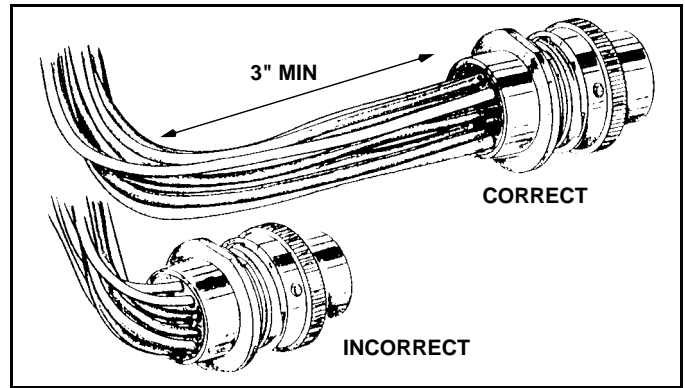

Figure 1-1
- Allows the wiring harness to extend at least 3" from behind the bracket before making any bends. (See Figure 1-1)